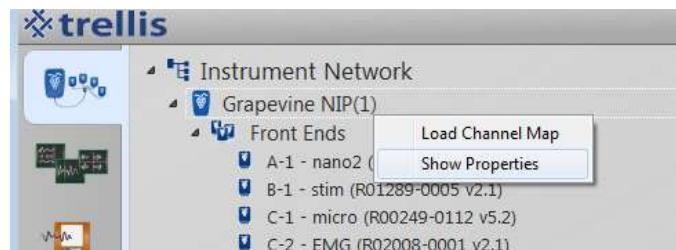

Figure 3-9 Trellis Instruments – Loading a global channel map
- Electrode-to-channel map files can be loaded as shown in Figure 3-9.
Map files allows you to label and arrange channels to match the physical layout of your electrode array. Each map files contain a set of entries, one entry per line. Each line specifies a label and a display location (i.e. x, y) for a Front End channel. Once you load a map, all applications will update to use the specified labels. Also, Spike Grid will update to arrange spike displays according to the specified coordinates. Map files can be loaded from the Instrument Network browser by right clicking on a Grapevine system, e.g., Grapevine NIP(1), as shown in Figure 3-9 below, and clicking on “Load Channel Map”. Map files can be cleared by right clicking on the same Grapevine item and clicking “Clear Channel Map”.